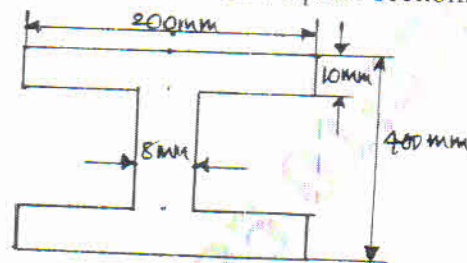

Fig.Q7(b)
- b. The cross-section of a beam is as shown in Fig.Q7(b). If permissible stress is 150 N/mm^2 . Find its moment of resistance and compare it with equivalent section of the same area for a square section.